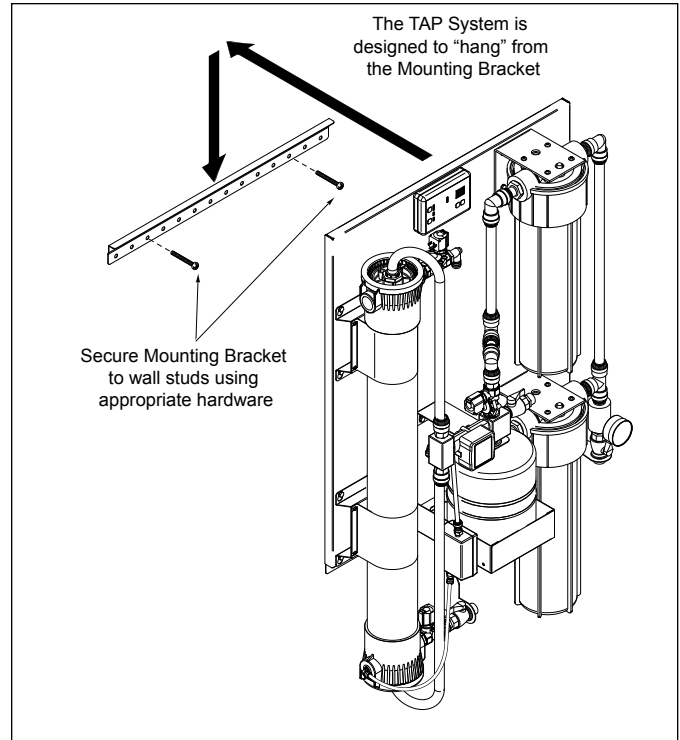

Figure 8. Mounting the TAP System
1. Use a level and a studfinder to attach the Mounting Bracket securely to the wall with the appropriate mounting hardware (Figure 8).
2. The Mounting Bracket is designed so that the TAP system can be lifted and hung on the Mounting Bracket. With assistance from another person, lift the TAP system and seat it onto the Mounting Bracket securely (Figure 8).